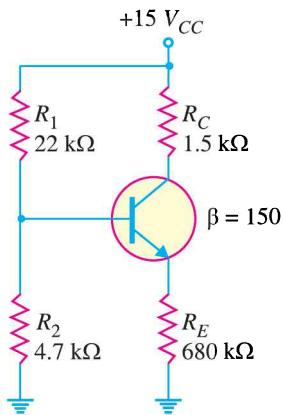

Fig. 9.56
15. What is the minimum value of  $\beta$  in Fig. 9.56 that makes  $R_{in\ (base)} \geq 10 R_2$  ? [69.1]